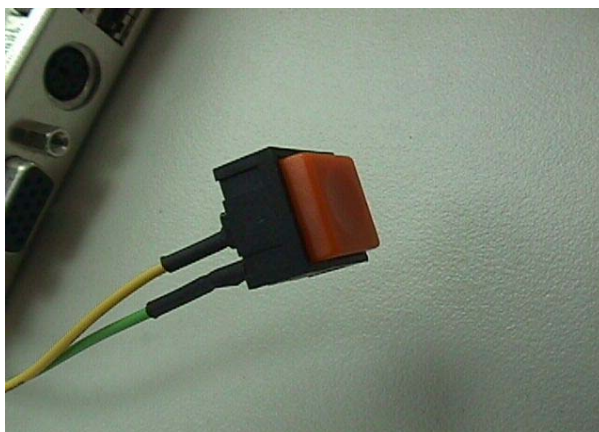

Figure 5-6
Step 6: The figure below is the TOGGLE SWITCH, which is used to switch the ATX Power on/off for SBC. Usually the TOGGLE SWITCH is located on the chassis front panel. Pressing the switch button once will turn power on, and press again to turn it off. (Figure 5-6)